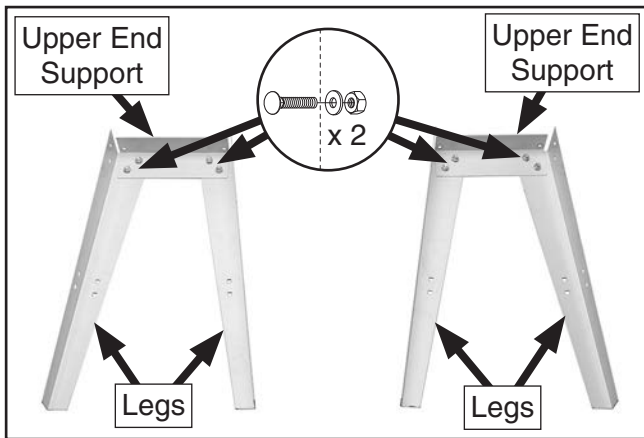

Figure 12. Stand end assemblies built.
1. Build two stand end assemblies by attaching (2) upper end supports to (4) legs with (8) M8-1.25 x 12 carriage bolts, (8) 8mm flat washers, and (8) M8-1.25 hex nuts (see **Figure 12**). DO NOT fully tighten fasteners yet.